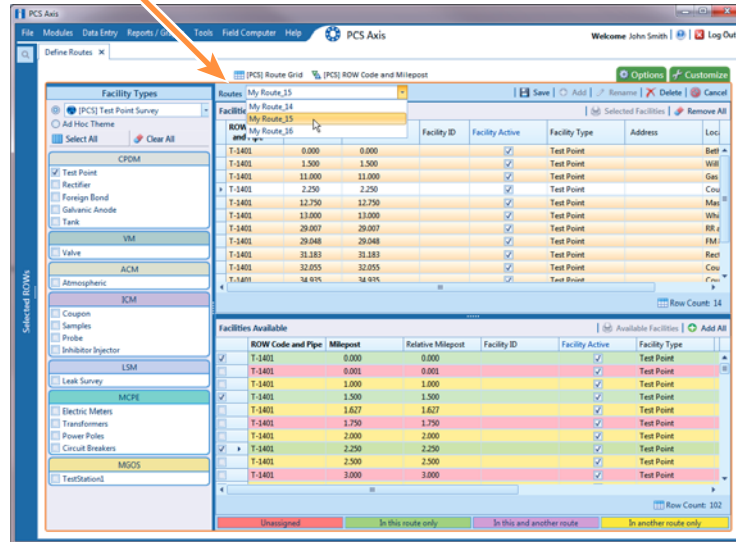

Figure 8-40. Define Routes
- 2 Click **Data Entry > Define Routes** to open the *Define Routes* window. Click the down arrow in the **Routes** field and select a route in the list (Figure 8-40).
- 2 Click **Data Entry > Define Routes** to open the *Define Routes* window. Click the down arrow in the **Routes** field and select a route in the selection list (Figure 8-40, page 393).
- 2** Click **Data Entry** > **Define Routes** to open the *Define Routes* window. Click the down arrow in the **Routes** field and select a route in the selection list (Figure 8-40, page 393).
- 2 Click **Data Entry** > **Define Routes** to open the *Define Routes* window. Click the down arrow in the **Routes** field and select a route in the selection list (Figure 8-40, page 393).